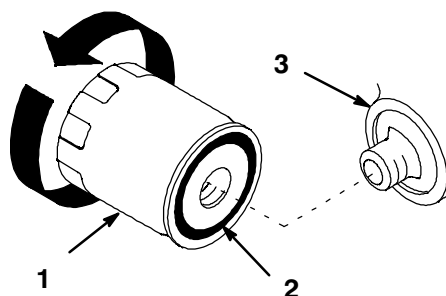

Figure 59
2. Remove the old filter and wipe the filter adapter (Fig. 59) gasket surface.
4. Apply a thin coat of new oil to the rubber gasket on the replacement filter (Fig. 59).
5. Install the replacement oil filter to the filter adapter. Turn the oil filter clockwise until the rubber gasket contacts the filter adapter, then tighten the filter an additional 1/2 turn (Fig. 59).